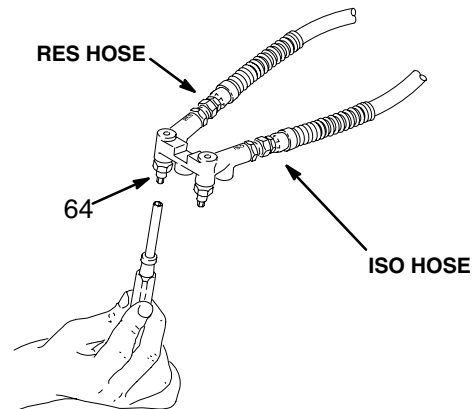

Fig. 15
1. Close the feed pump air inlet valves or regulators (8).
2. Close the heater drain valves (61).
3. Close the needle valves (64) of the spray gun manifold. See Fig. 15.
3. Open the manifold needle valves (64). See Fig. 15, page 14. Allow the material to flow out until all air is purged from the sprayer and the spitting stops.